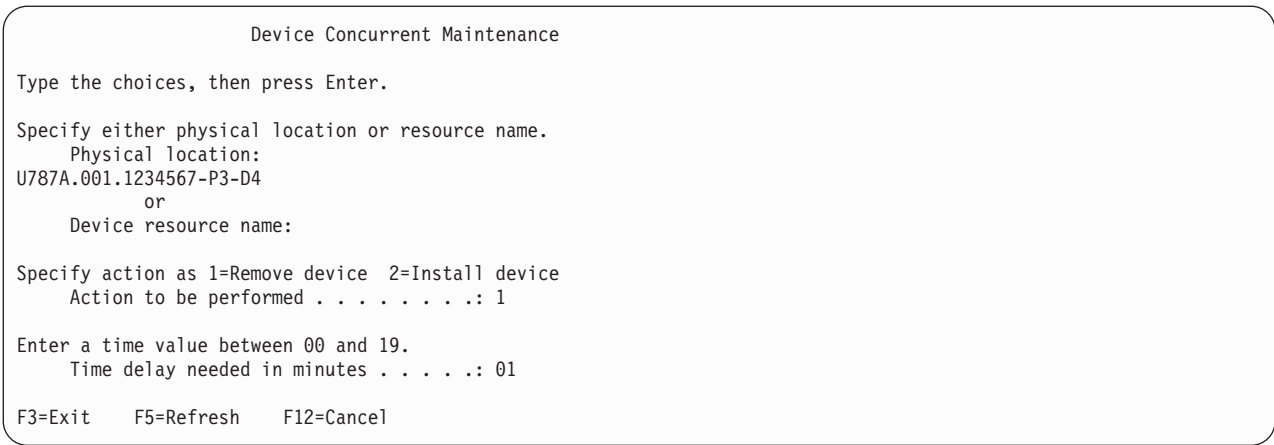

Figure 78. Example Device Concurrent Maintenance display
7. If the physical location does not appear in the Device Concurrent Maintenance display, type the physical location where you will be replacing the disk drive as shown in the preceding example, Figure 78.